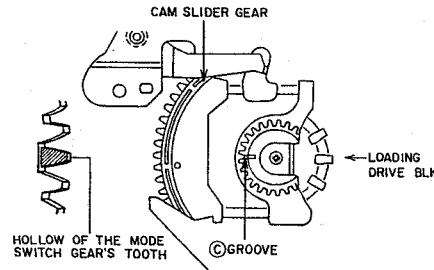

Fig. 3-15
2) Attach the MODE SELECT SWITCH to the LOADING DRIVE BLK and align the hollow of the gear's tooth (reverse side of the ④ mark) with the ⑤ groove of the CAM SLIDER GEAR as shown in Fig. 3-15.